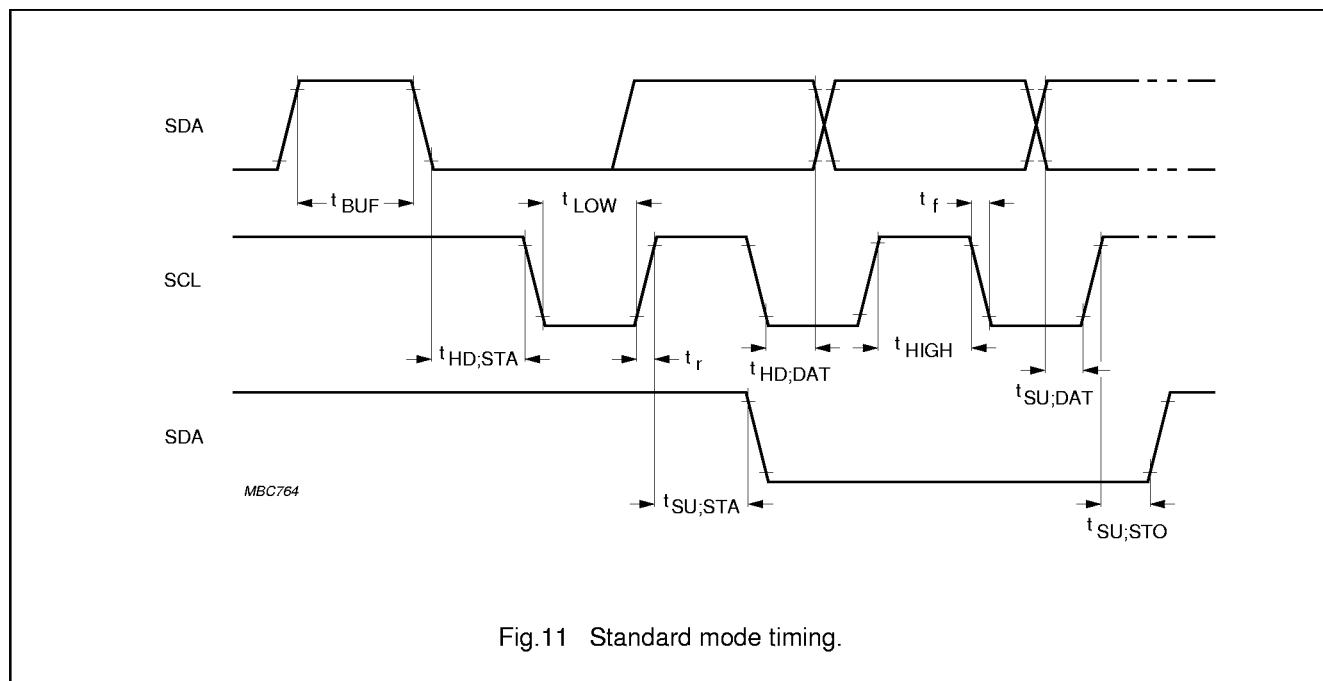
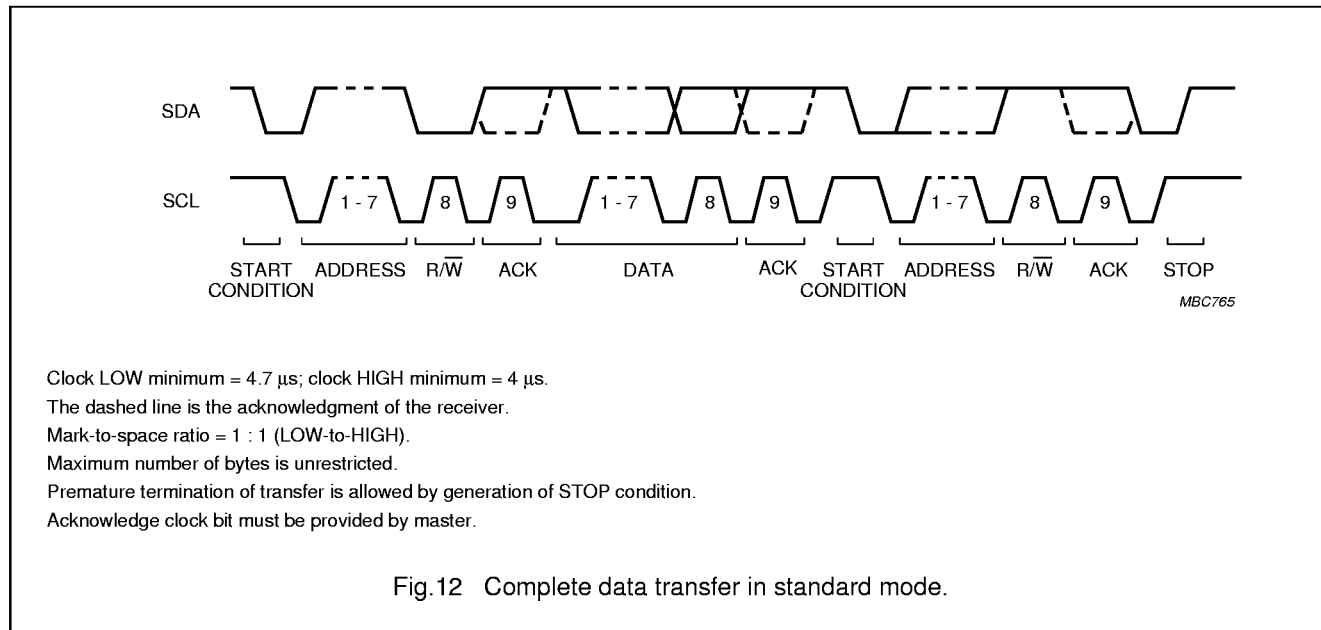

Fig.11 Standard mode timing.
Fig.12 Complete data transfer in standard mode.
Masters generate a bus clock with a maximum frequency of 100 kHz. Detailed timing is shown in Fig.11, where the two signal levels are LOW = VIL and HIGH = VIH, see Chapter 11. Figure 12 shows a complete data transfer in standard mode. The time symbols are explained in Table 6.
**Table 6** Explanation of time symbols used in Fig.11